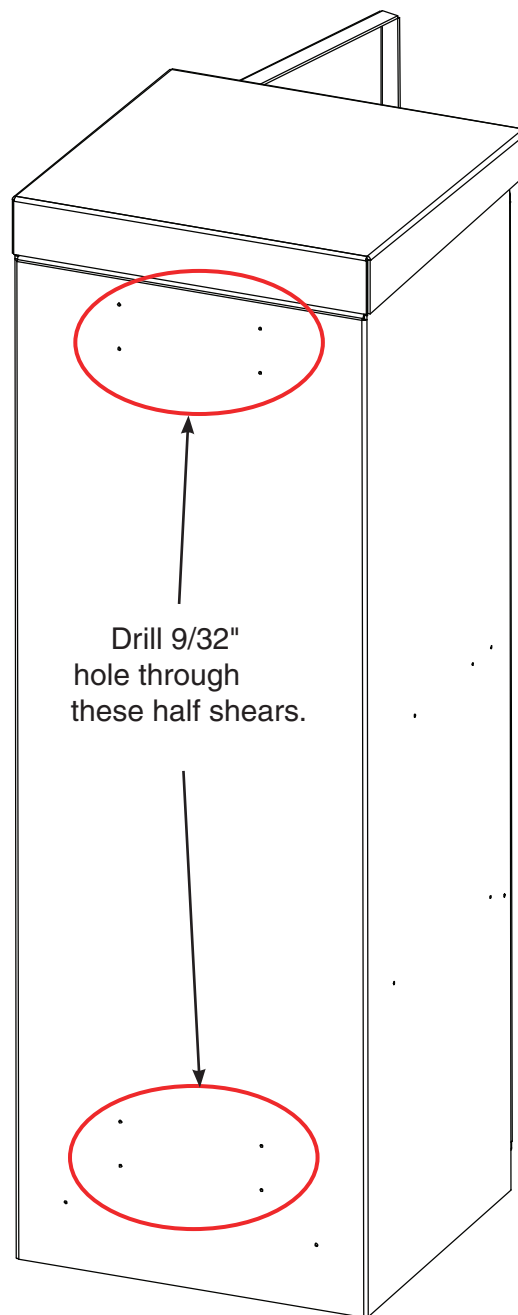

Figure 5.2 – Drilling the cabinet
1. Using a 9/32" drill bit, drill through the 8 half-shears shown in Figure 5.2.